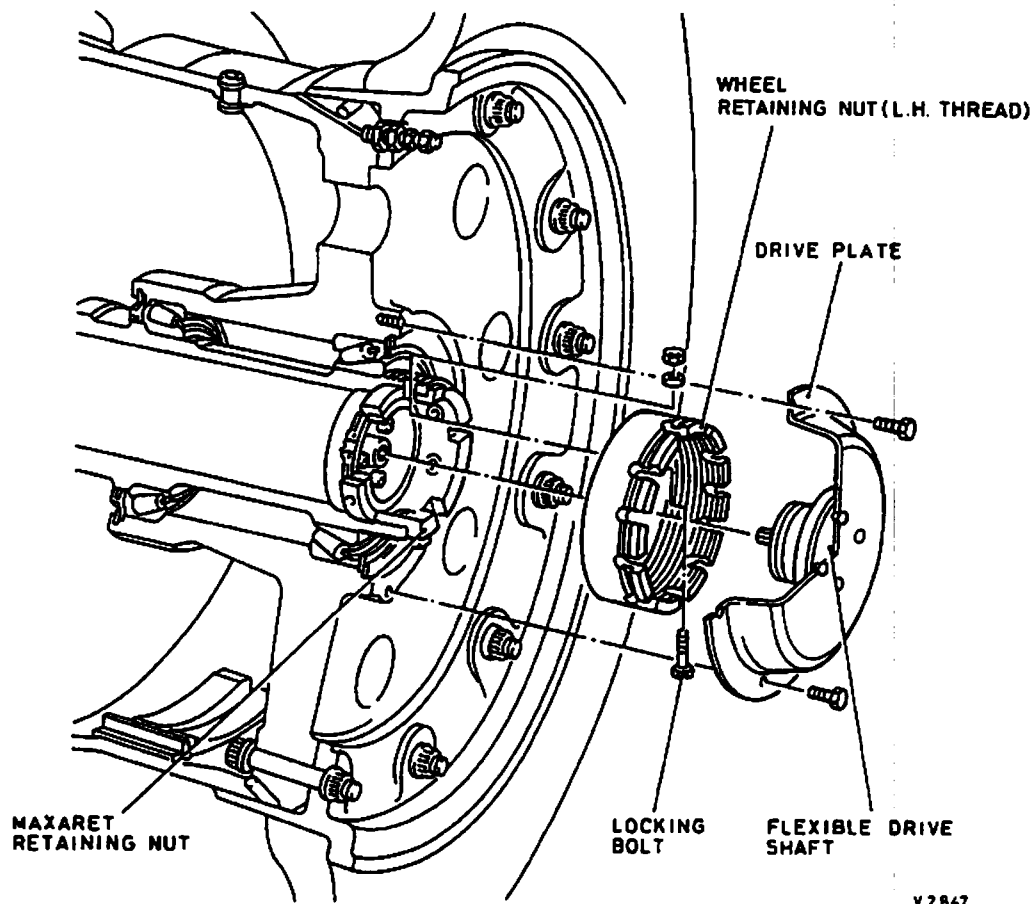

Figure 401
(1) Raise the complete airplane or the relevant main leg assembly on jacks (Ref. 07-10-00, 201).
(2) Make sure that the emergency brake accumulator is pressurized, and apply the parking brake.
(3) Remove the bolts that attach the Maxaret unit drive plate to the wheel hub and withdraw the flexible drive shaft assembly from the end of the Maxaret unit (Ref. Figure 401).